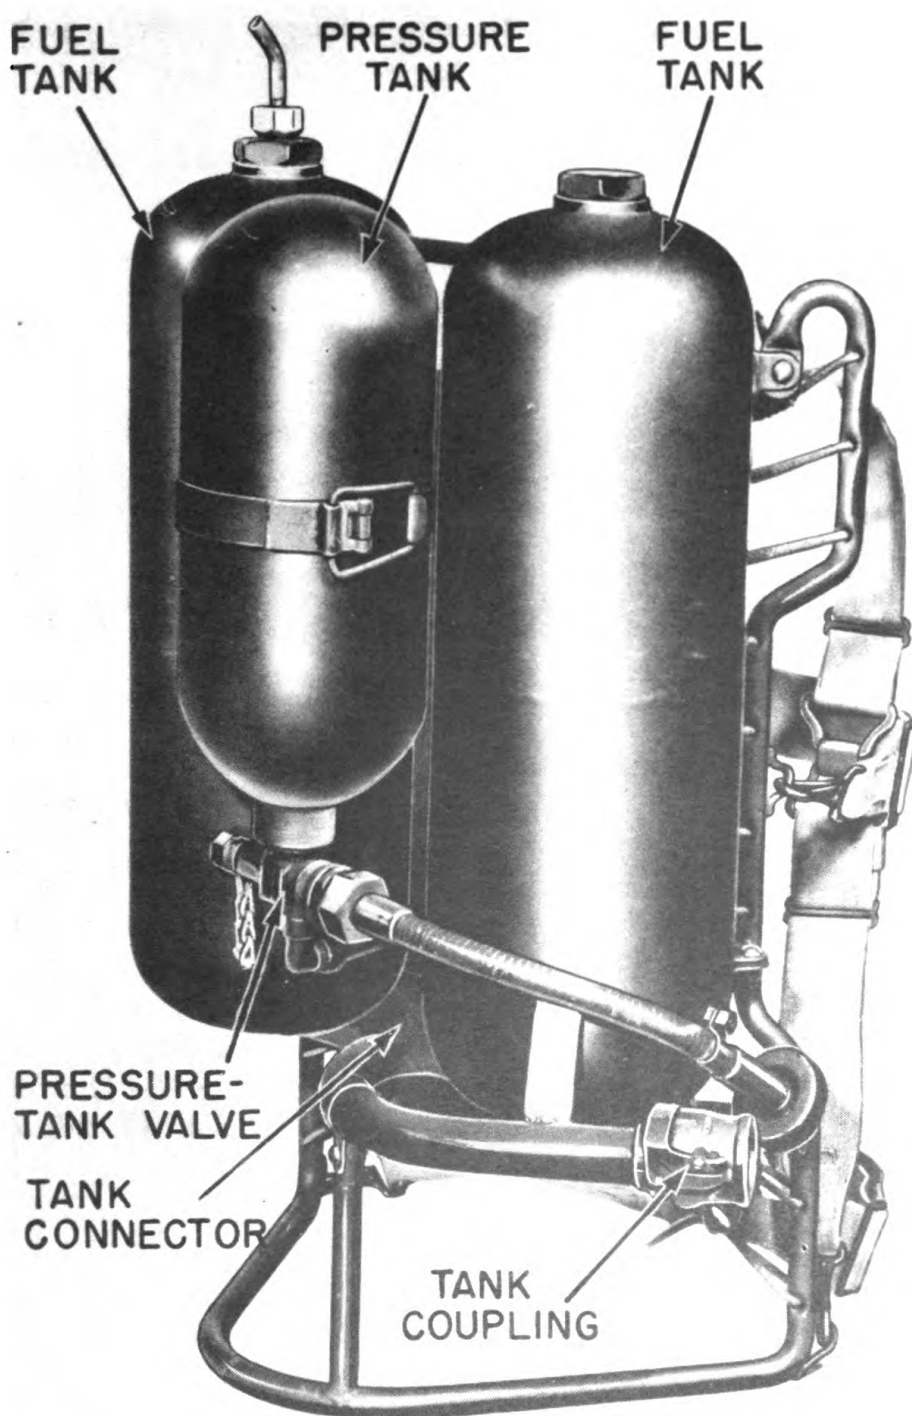
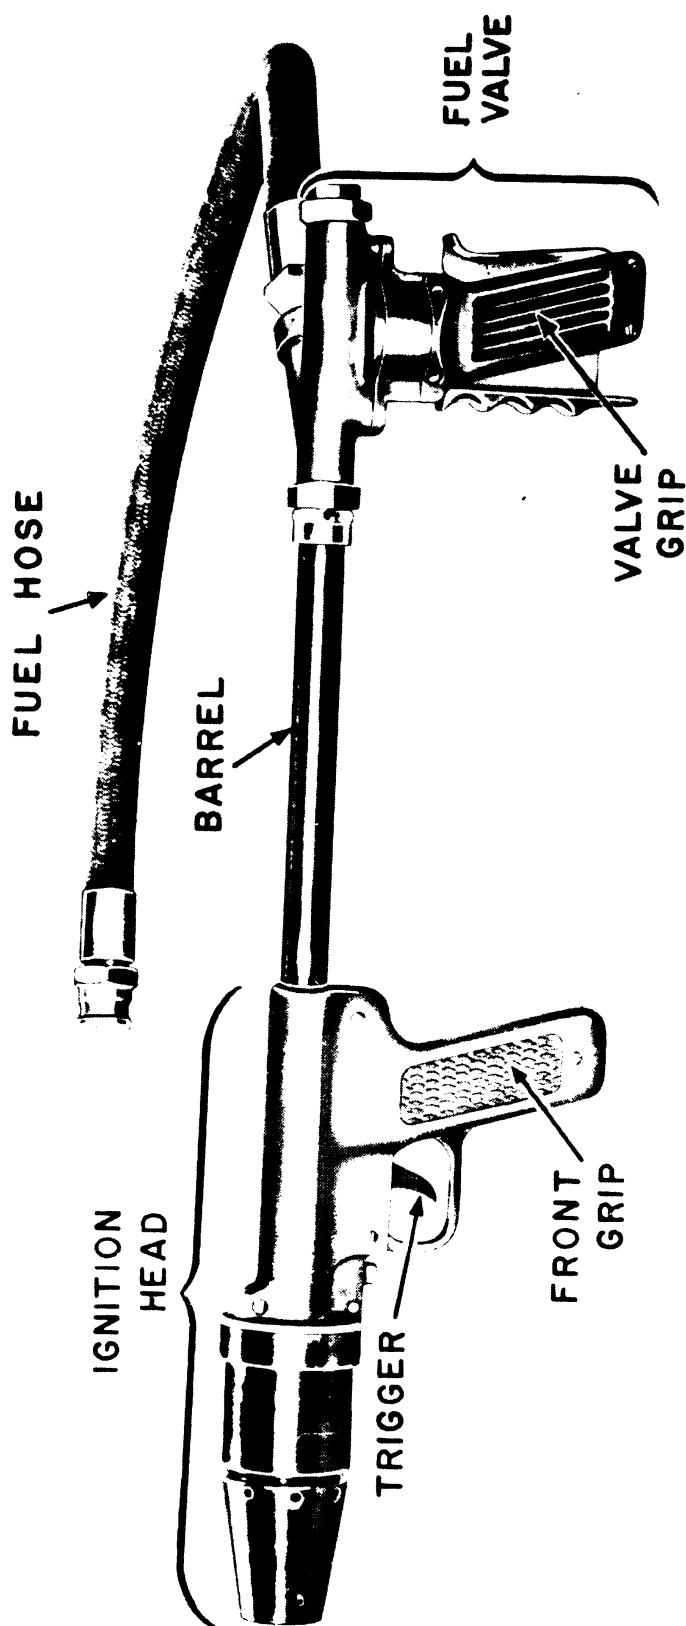

Fig 4. Tank group.
Fig 6. Gun group of portable flame thrower M2-2.
g. Charging and filling. In order to replace pressure tanks (cylinders) of earlier types of flame throwers, it is necessary to unscrew and screw threaded connections. Experience has shown that this frequently resulted in damage to threads, leakage, loss of pressure, and loss of range. It is also necessary to use tools to replace each pressure tank (cylinder). The design of the M2-2 flame thrower eliminates these difficulties. The tank group (Fig 4) may be charged and filled as a unit with or without gun and hose. The quick-connecting tank coupling permits rapid interchanging of empty and full tank groups by the firers or as-
a. Tank group. (Figs 4 and 5) Carried upon the firer's back, the tank group holds fuel and pressure. The tank group may be identified as tank, fuel, portable flame thrower, M2, assembly D81-1-482. It consists principally of:
(1) Two fuel tanks, holding a total of 4 gallons of fuel, and joined by a tank connector to form a single fuel reservoir.
(2) Pressure tank, charged with highly compressed air or nitrogen used to propel fuel from the fuel tanks through the gun to the target. The tank is large in capacity to assure ample pressure and uniformly long range throughout the firing.
(3) Pressure-tank valve, which releases air or nitrogen through the pressure regulator to the fuel tanks. The valve can be opened by the firer without the assistance required in the case of the M1A1 flame thrower.
(4) Pressure regulator, which automatically assures delivery of air or nitrogen to the fuel tanks at the proper pressure. The regulator is located in a position where it cannot easily be damaged.
(5) Carrier, which supports the tank group on the firer's back and shoulders and secures it to his body. It includes body and shoulder straps and quick-releasing fasteners.
b. Gun group. (Fig 6) Carried, aimed, and operated by the hands of the firer, the gun group ignites the fuel and directs the flame into the target. It includes:
(1) Fuel hose, which conveys fuel from the tank group to the gun. The fuel hose may be requisitioned as hose, fuel, portable flame thrower, M1, assembly B81-1-498.
(2) Gun, which ignites the fuel and directs it to the target. The gun may be identified as gun, portable flame thrower, M2, assembly D81-1-405. It consists of: